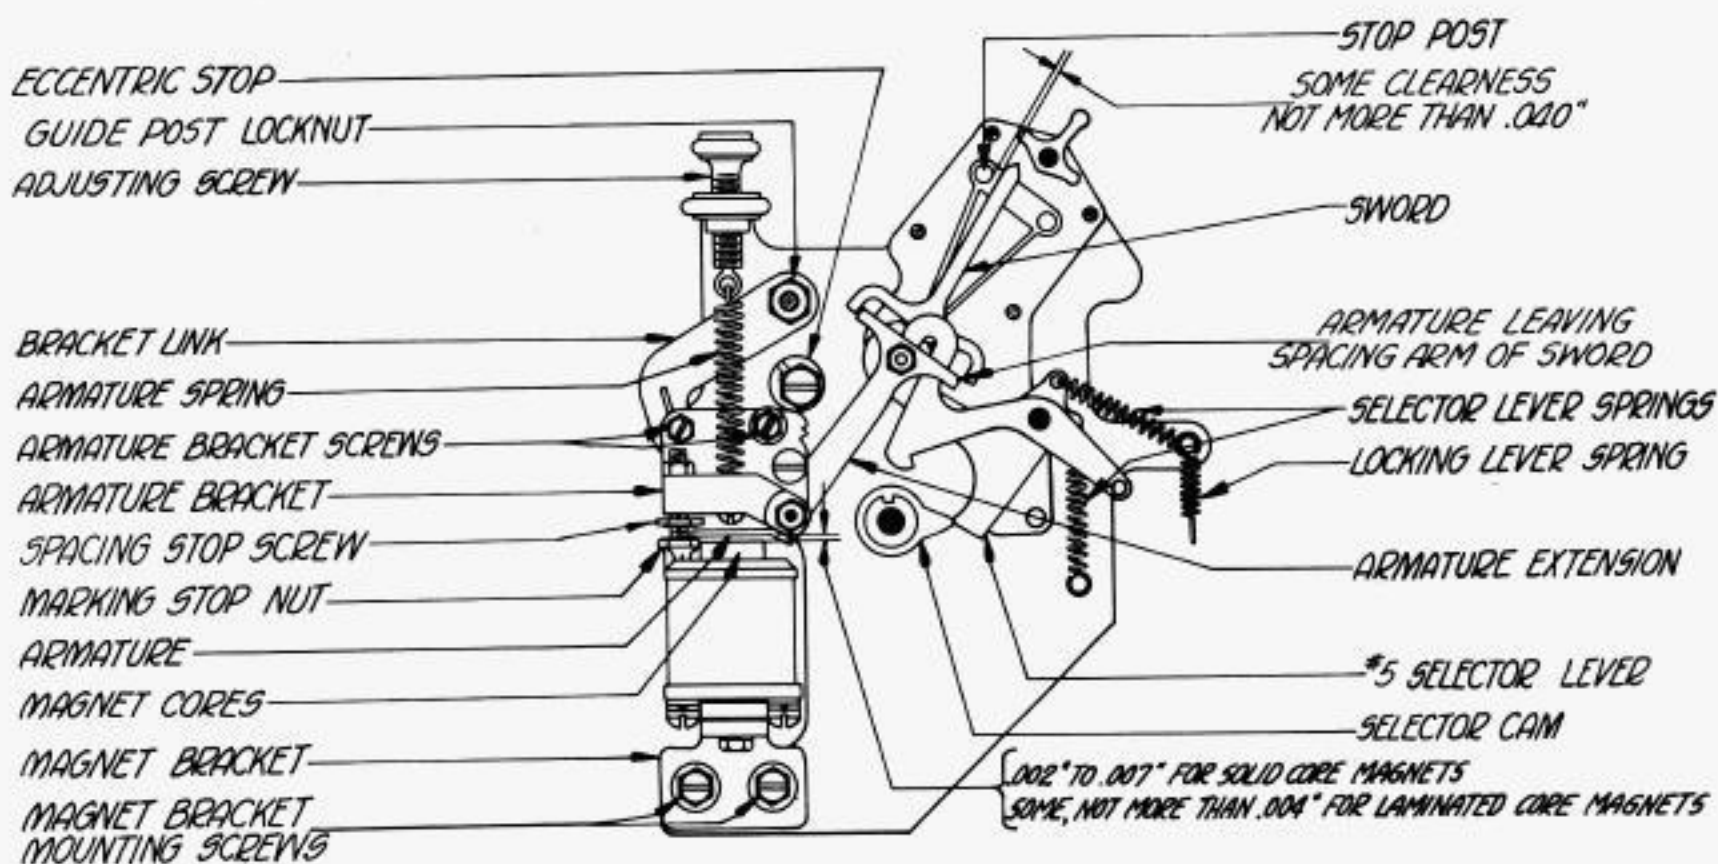

FIGURE 5
Selector Armature Bracket Adjustment (Figure 5) - See Note (A)
Armature Stops Adjustment for Five-Unit Reperforators (Figures 5 and 6) - See Note (A)
#### Magnet Bracket Adjustment (Figure 5)